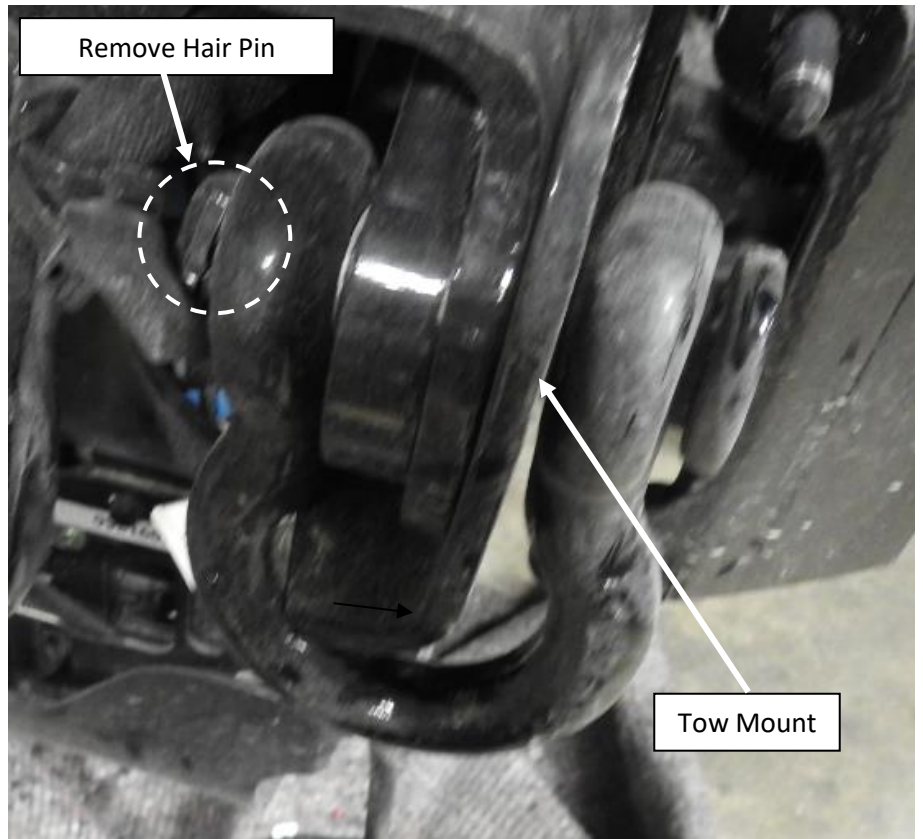

Figure 2 – Factory Tow Hook Uninstall (Passenger Side Shown)
2. Remove factory two hooks as shown in Figure 2.